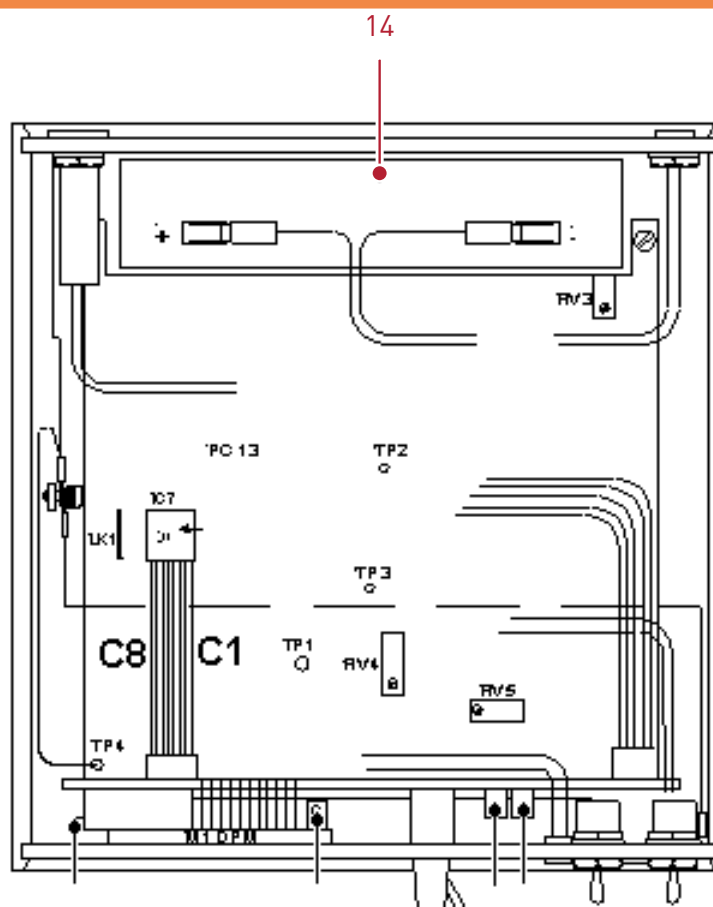

Figure 6. Mag-01H: internal view
Key to Figure 6
- ii. Open the instrument case by removing the two retaining screws located at the edges of the instrument base. Remove the cover of the instrument, leaving the front and rear panels located in the base. The battery will be seen supported on the rear panel of the instrument. (See Figure 6.)